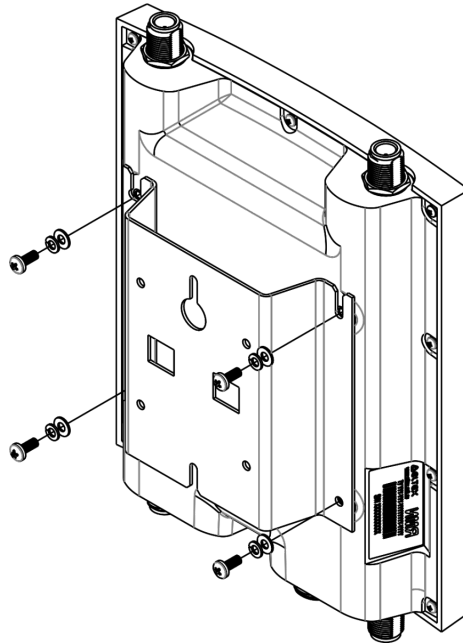

Figure 11 – Mounting bracket on a mast/pole
1.1) Install the bracket as shown in the figure 11.